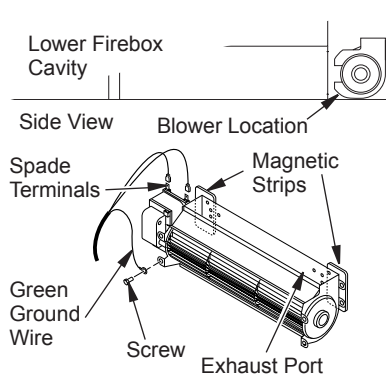

Figure 25 - Blower Model BK
1. Attach the power cord to the blower motor by firmly pushing the two female terminals at the end of the power cord onto the two spade terminals on the blower motor (see Figure 25).
2. Attach green ground wire from power cord to the blower housing using screw provided (see Figure 25). Tighten screws securely.
3. Place the blower against the lower rear wall of the firebox outer wrapper with the exhaust port directed upward. The blower will fit inside the back opening and be held in position against the back wall by the magnets (see Figure 25).